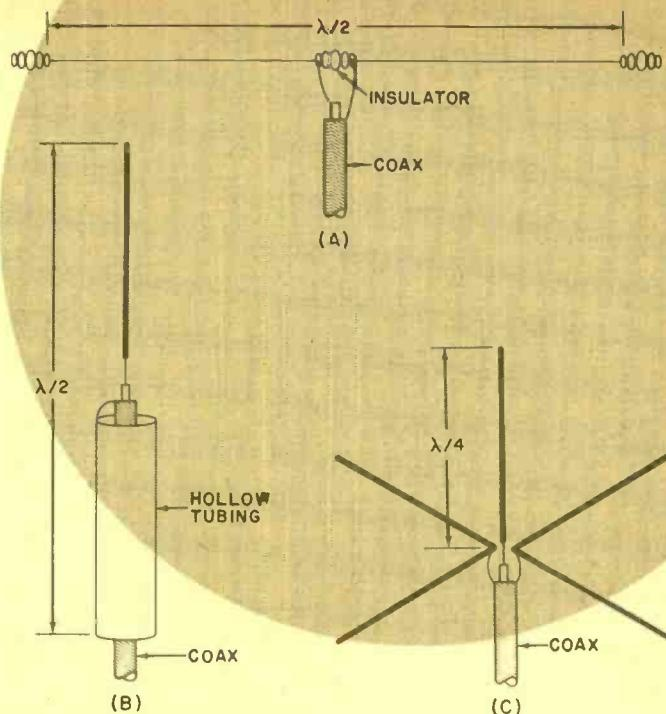

Fig. 4. Three simple antennas: (A) horizontal dipole; (B) vertical (coaxial) dipole; (C) ground plane.
**Simple Antennas.** The two basic antennas that are used in communications are the *dipole* and *ground plane*. Dipoles are formed by splitting a piece of wire one-half wavelength (the distance a radio wave travels in 180° of one cycle), and feeding it with a transmission line. The antenna can be installed in either the horizontal (A) or vertical (B) plane, as shown in Fig. 4. The coaxial dipole is often used because it is vertically polarized. One half of the dipole is a rod or wire connected to the inner conductor of the coaxial feedline. The other half is a piece of tubing tied to the outer conductor or "braid" of the coaxial line. Each element of the dipole is one-quarter wavelength ( $\lambda/4$ ) or about 9 feet.
usable screws in place under the dash—but be sure not to impair the use of the glove compartment door when positioning the speaker. Mount the bracket, attach the speaker, and connect the speaker wire to the appropriate jack on the transceiver. Although the power lead can be cut to the right length, you should not shorten the speaker lead. You might want to move the speaker at some future time, so simply coil up the excess cable and tape it up under the dash. At this point, the installation should look like Fig. 4.